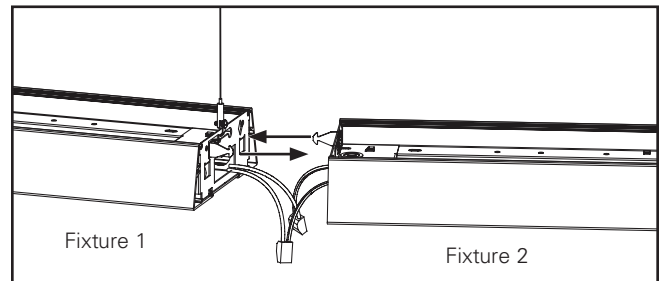

Figure 7.
3. Make electrical connections. (Figure 7.)